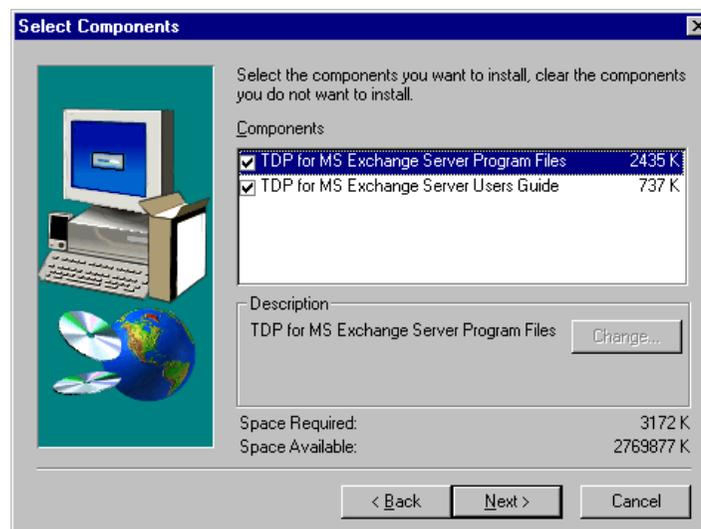

Figure 59. Installing TDP for MS Exchange, selecting components
4. Select the components which you want to install (Figure 59).